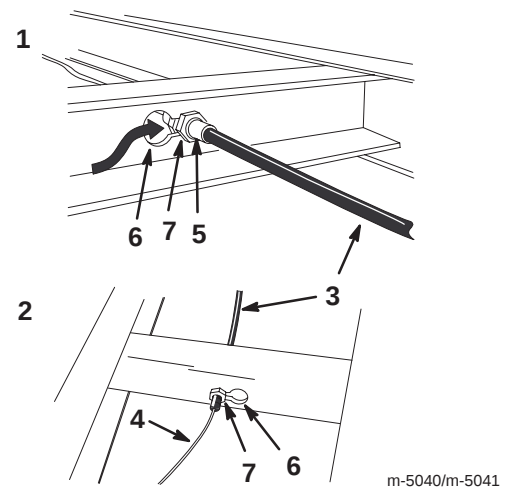

Figure 14
7. Thread the balled end of the cable through the keyhole slot in the frame up to the fitting on the cable jacket (Fig. 14).
8. Slide the fitting through the slot and push it to the right and ensure that there is a jam nut on each side of the frame (Fig. 14).